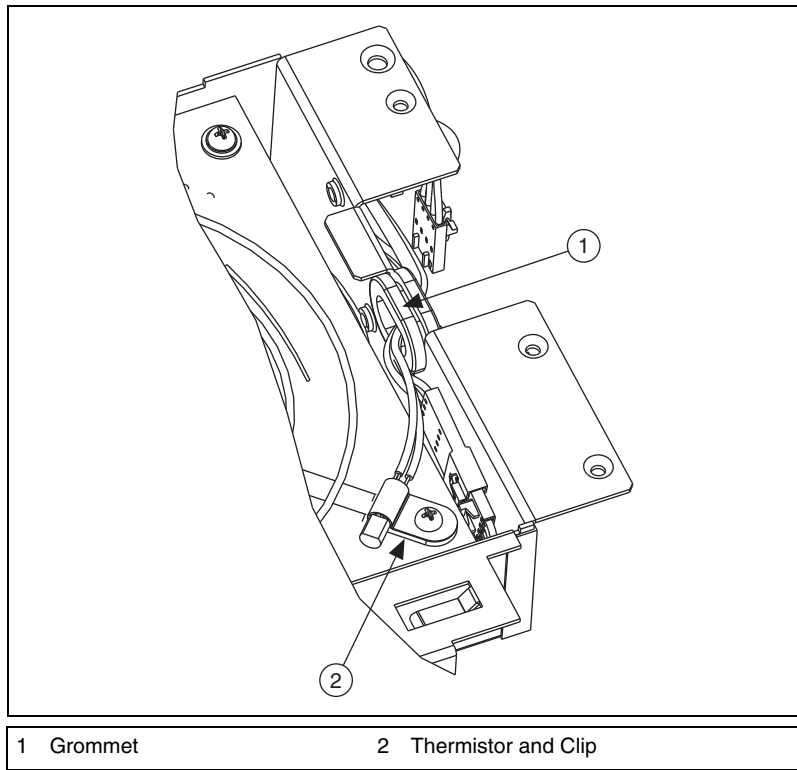

Figure 8. Thermistor Location and Orientation
- Insert three of the four screws with the flat washers closest to the fan and the split spring washers closest to the screw heads. The fourth screw does not use washers, but instead anchors the thermistor. Insert the fourth screw through the thermistor clip hole and orient the thermistor as shown in Figure 8.